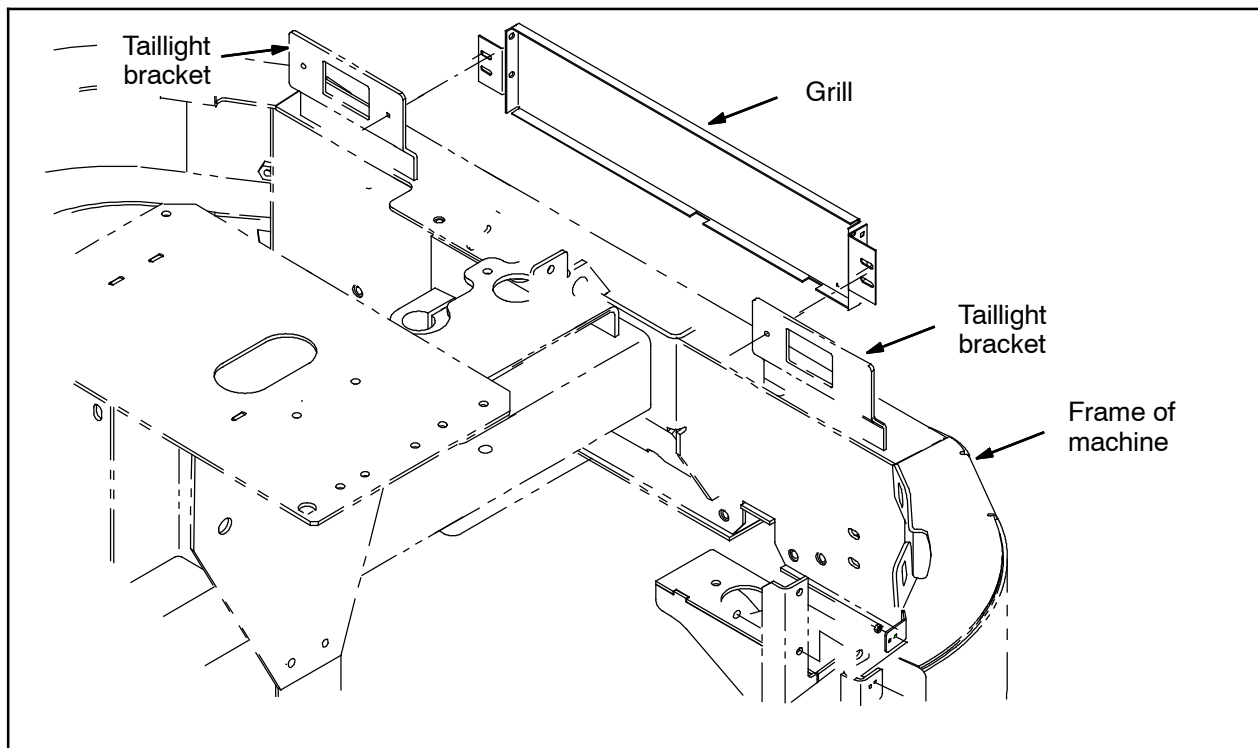

FIG. 33
46. Remove the grill from the frame of the machine. Set the grill and hardware aside. (Fig. 33)